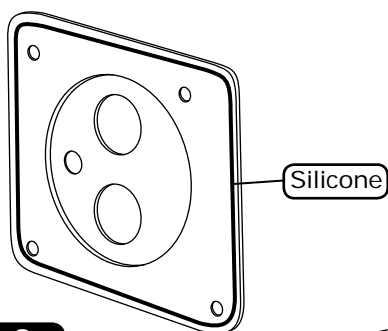

Figure 8a
1. Apply a 1/4" bead of silicone around the back side of the firewall cover as shown in Figure 8a, below.